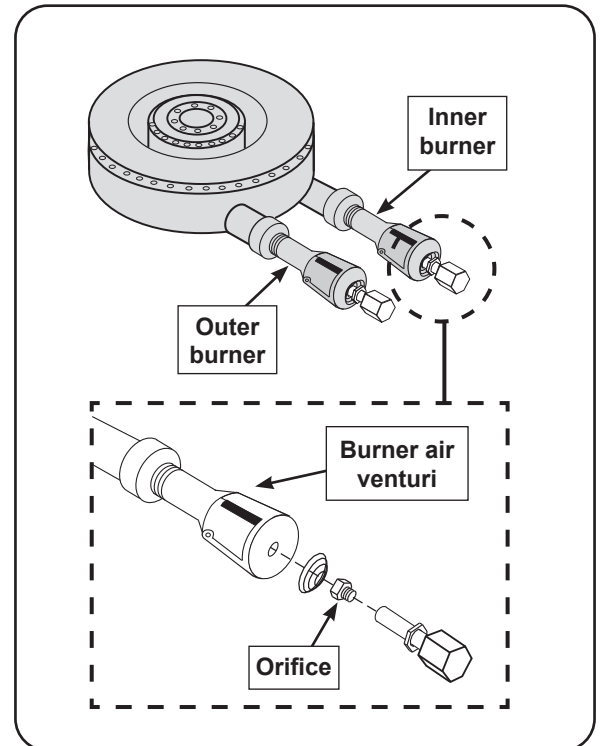

Fig. 42-1 Burner air shutter / orifice orientation
2. Locate the orifices. The orifice size is stamped on each orifice face (see Fig. 42-1).